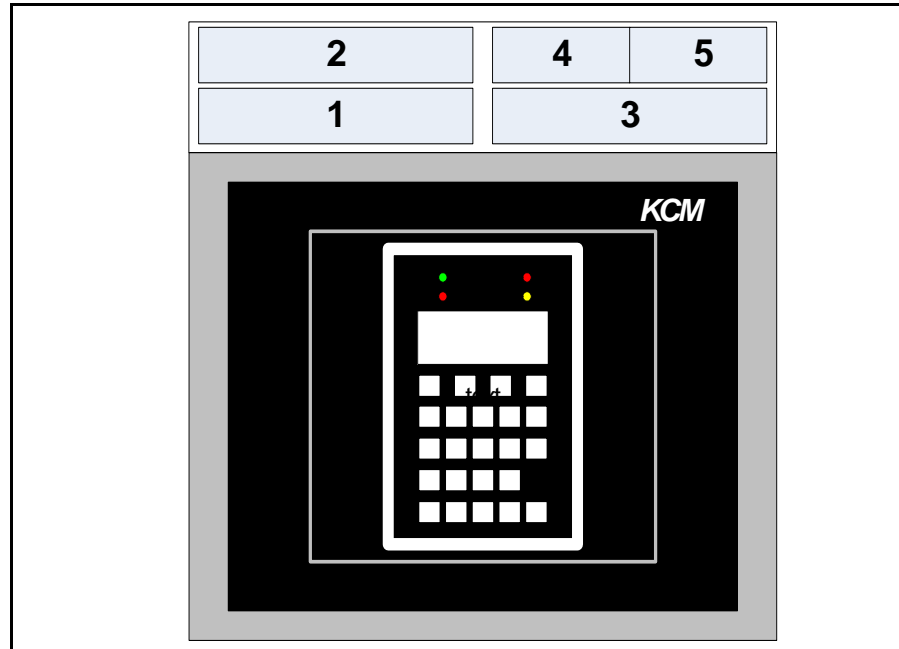

Fig. 2.6 KCM data comm block diagram
- K-Port 1 or K-Port 2 for KSC, KSU-II, KSL or remote I/O applications, is shown in figure 2.6.
See figure 2.6 for the following: